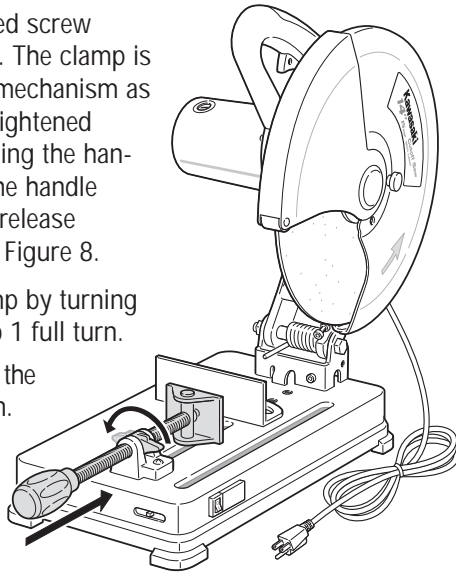

FIGURE 8. USING THE QUICK LOCK LEVER
The work vise is equipped with a threaded screw clamp and handle for tightening the vise. The clamp is also equipped with a quick lock release mechanism as standard equipment. The clamp can be tightened against the workpiece in the vise by turning the handle clockwise and loosened by turning the handle counterclockwise. To use the quick lock release mechanism, follow the steps below. See Figure 8.
9. Once the cut is completed, turn off the Cut-off saw by releasing the trigger switch. This also allows the safety button to return to the "OFF" position. See Figure 8.